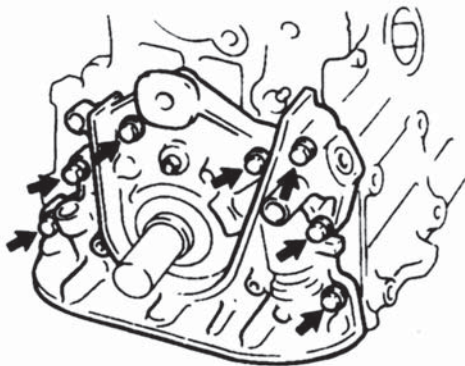

Figure 85
7. Detach oil pump assembly. See (Figure 85)